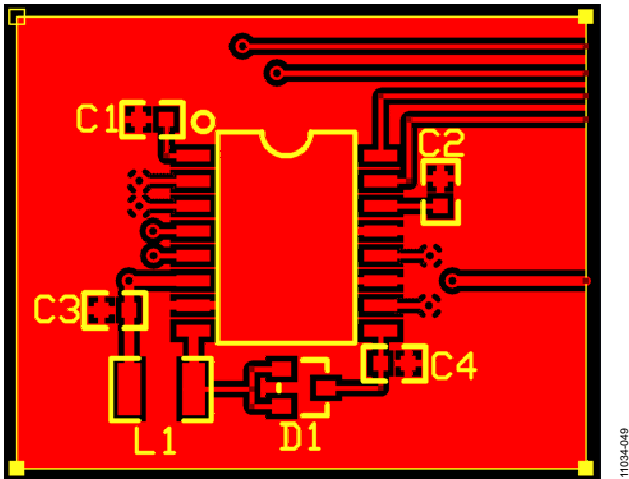
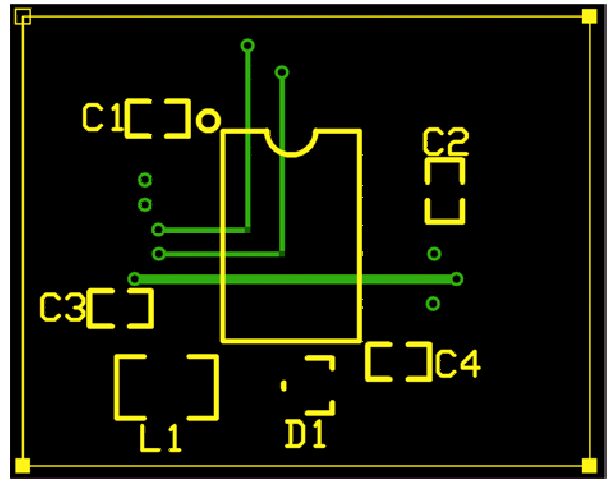
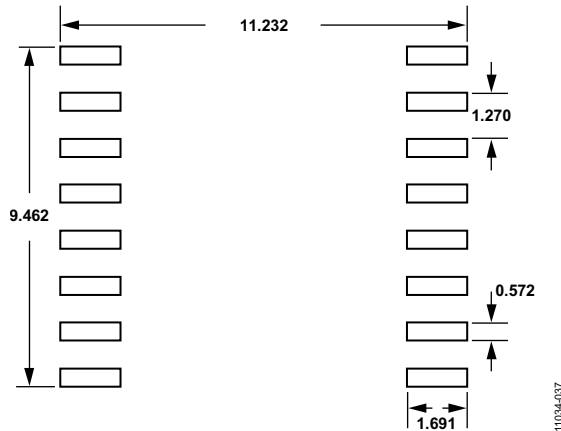

Figure 22. SOIC PCB Layout Top Layer Metal
Figure 23. SOIC PCB Layout Bottom Layer Metal (Silkscreen Is shown as a Reference Only and Is Not Present on the Back Side of the PCB.)
Figure 24. Sample SOIC Solder Pad Layout (Land Pattern); Dimensions Shown in Millimeters
Figure 22 and Figure 23 show a suggested board layout for the SOIC package, and Figure 24 shows a sample solder pad layout. The board layout is intended for a 2-layer PCB design. While this exact layout need not be followed, the user should adhere to the following guidelines:
- Figure 22 and Figure 23 show the use of a top-layer metal GND plane for all GND connections. The use of a power plane is not recommended.
- For the SOIC package, it is not recommended to route the SPI interface traces under the device without proper shielding, such as a filled ground plane (used in Figure 22 and Figure 23).